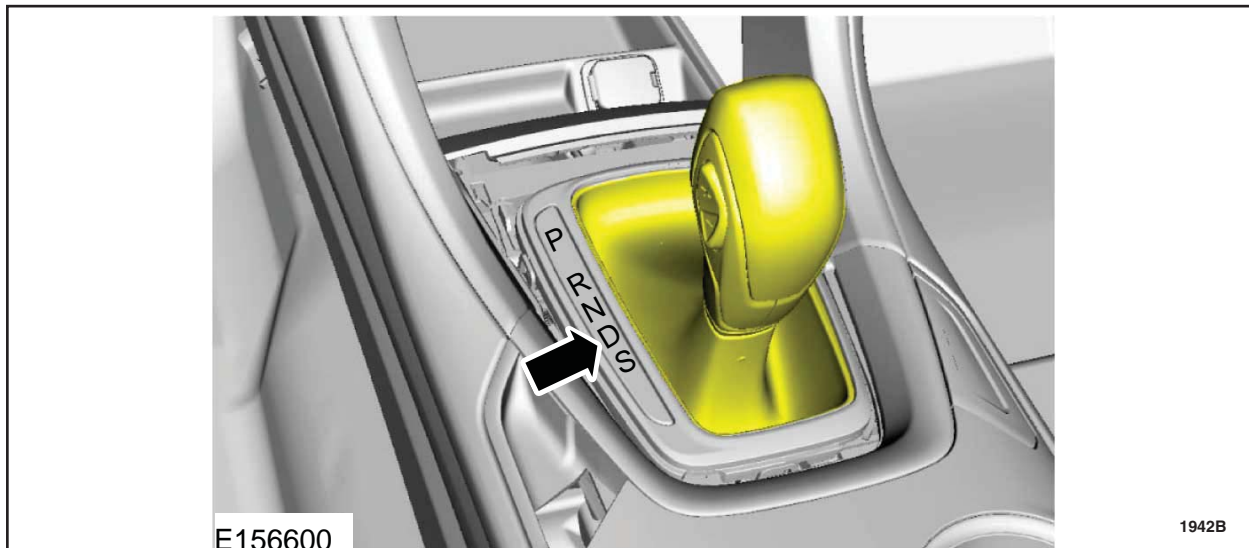

FIGURE 9
10. The vehicle's transmission gear selector lever should be in Drive position from Step 2, if not, position the selector lever to Drive (D). See Figure 9.